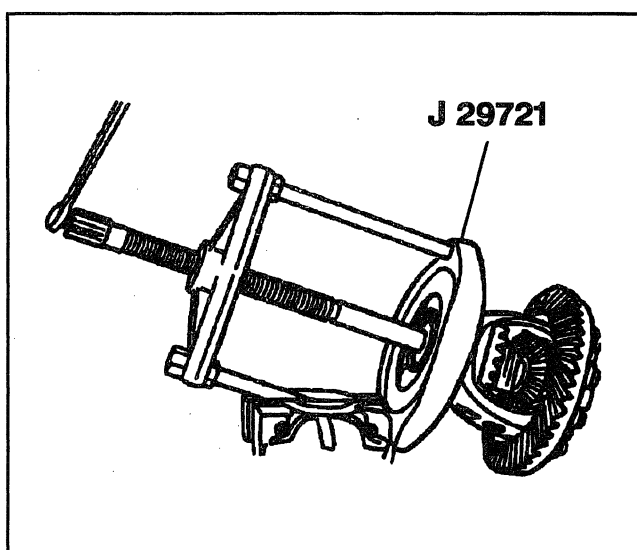
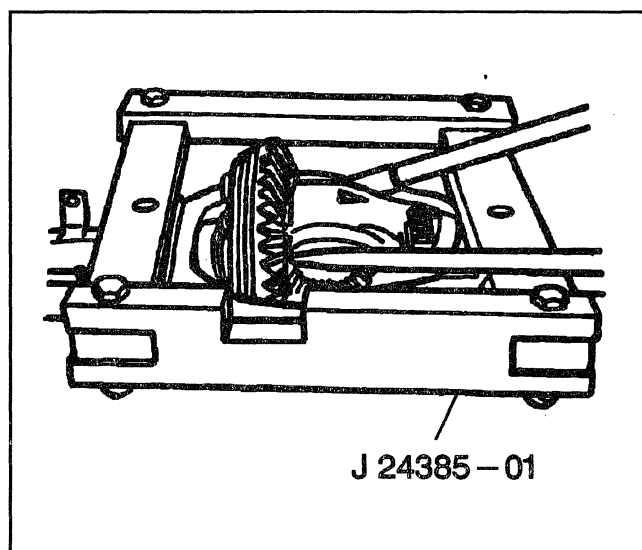

Figure 5—Removing the Differential Side Bearings
Figure 4—Removing the Differential
5. Case (22) from the housing (1) using two pry bars (Figure 4).
6. J 24385-01 from the housing (1).
7. Bearing cups (20).
8. Bearings (20) using J 8107-3, J 29721, and J 29721-70 (Figure 5).
9. Shims (21).